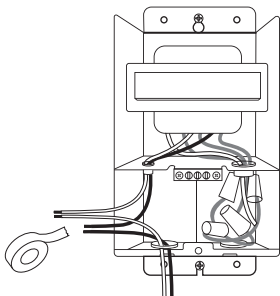

Figure 4
5. Use electrical tape to connect the Black Wire and White Wire of the High Voltage Wiring Compartment with your live and neutral wires separately, then place these connected wire in the High Voltage Wiring Compartment. (Figure 4)